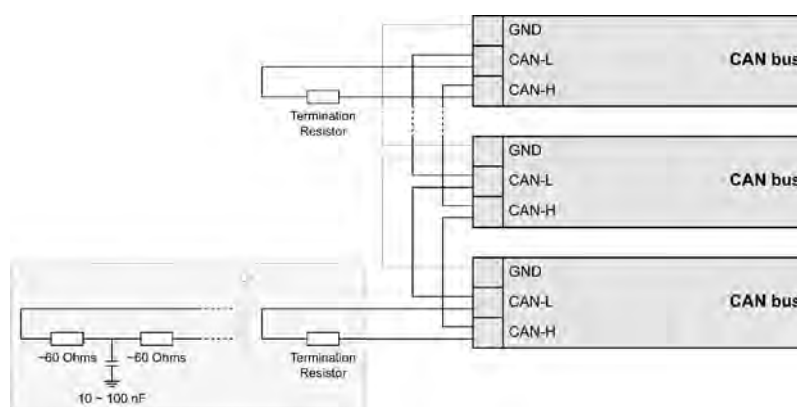

Fig. 71: CAN bus - termination
The termination resistor is connected between CAN-H and CAN-L (Fig. 71).
- Divide the termination resistance into 2x60 Ohms with a center tap connected to ground via a capacitor of 10 to 100 nF (Fig. 71).